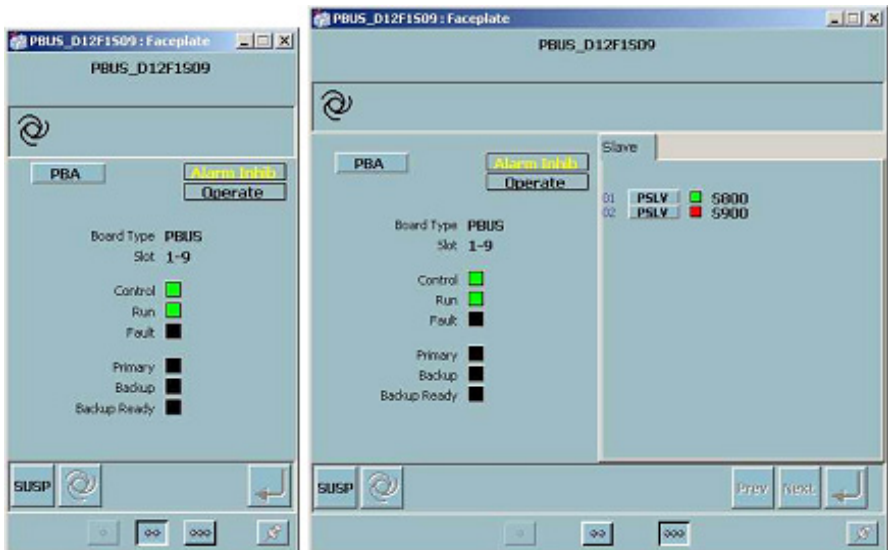

Figure 187. PBUS Module
**Profibus Board (PBUS).** The Profibus board module faceplate provides status information about the physical PBUS board mounted in a DCU frame. The PBUS module reports the run mode, backup mode, slot number, suspend switch position, board type, network slave device names and their quality status, and alarm status used for display in the faceplate. Figure 187 shows the layout of the PBUS normal and extended sized faceplate and its attributes.